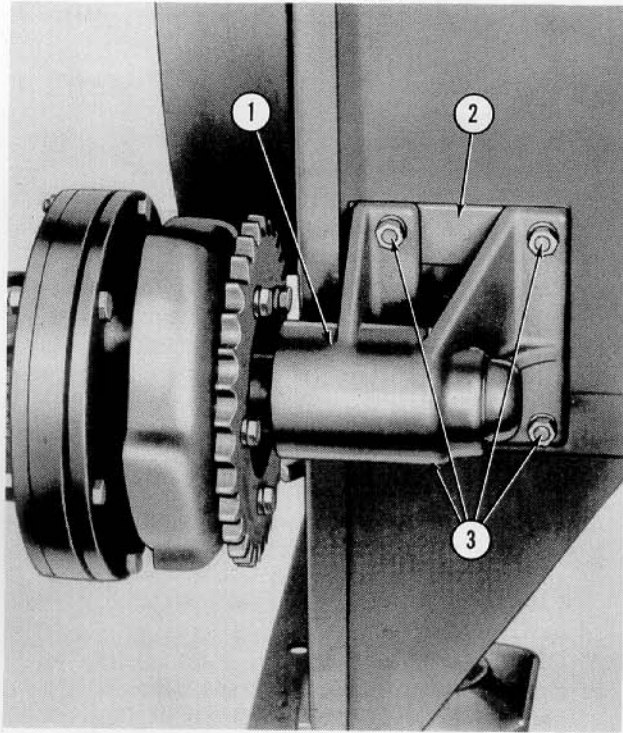

Figure 46
- Attach the power shaft bearing housing (1), Figure 46, to the baler with the four $\frac{3}{8}$ " x $1\frac{3}{4}$ " hex head bolts, lockwashers and nuts (3). Install the spacer (2) between the bearing housing and the baler and check the alignment of the housing on the baler. If necessary, add shims between the bearing housing (1) and the spacer (2) until the housing is properly aligned without binding.